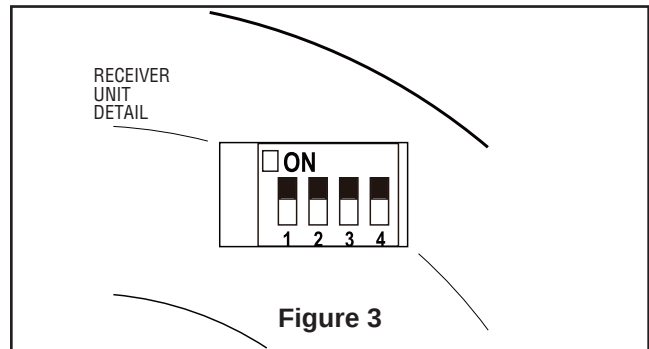

Figure 3
- ☐ 3. Position downrod support and align the clevis pin holes in both parts. Install the clevis pin and secure with the hairpin clip. Tighten the two set screws and locking nuts in the downrod support (Figure 3).
- ☐ 2. Carefully lift the fan and seat the downrod/hanger ball assembly on the hanger bracket that was just attached to the outlet box. Be sure the groove in the ball is lined up with tab on the hanger bracket (Figure 3).
- ☐ 2. To set the receiver unit code, slide code switches to the same positions as set on your transmitter (Figure 3).
- ☐ 3. Assemble the Upper Light Kit Plate to the Housing Support Bracket by aligning key slots in Plate with the two screws in Support Bracket. Assemble screw removed in step 2 and tighten all three screws (Figure 3).
- ☐ 3. The 5-button hand-held remote transmitter includes five buttons for high, medium and low fan speeds as well as fan off and light on/off. Infinite light levels are available by holding the light on/off button (Figure 3).